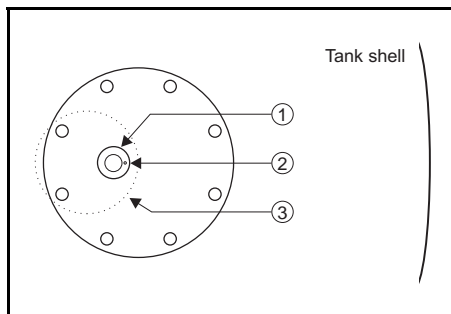

Figure 5.5 Position of antenna assembly on the roof (manhole) nozzle
Refer to figure 5.5.
- 1) the tank separator (1) is located as far as possible from the tank shell;
- 2) the position of the locking hole (2) on top of the tank separator is directed towards the tank shell.
The position of the antenna and Antenna Unit is indicated by line (3) in figure 5.5.